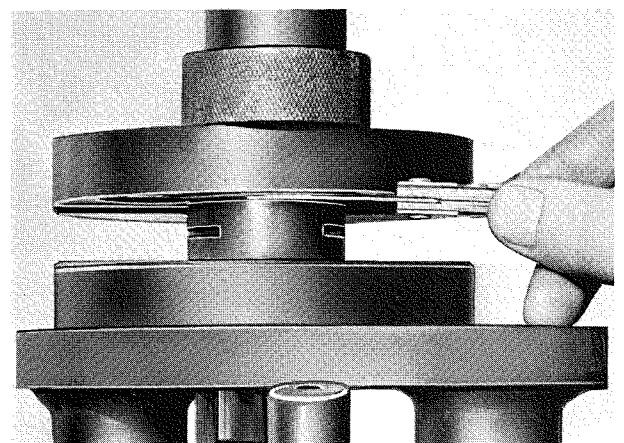

Fig. 9
8. The end float is measured with a feeler gauge as shown in fig 9.